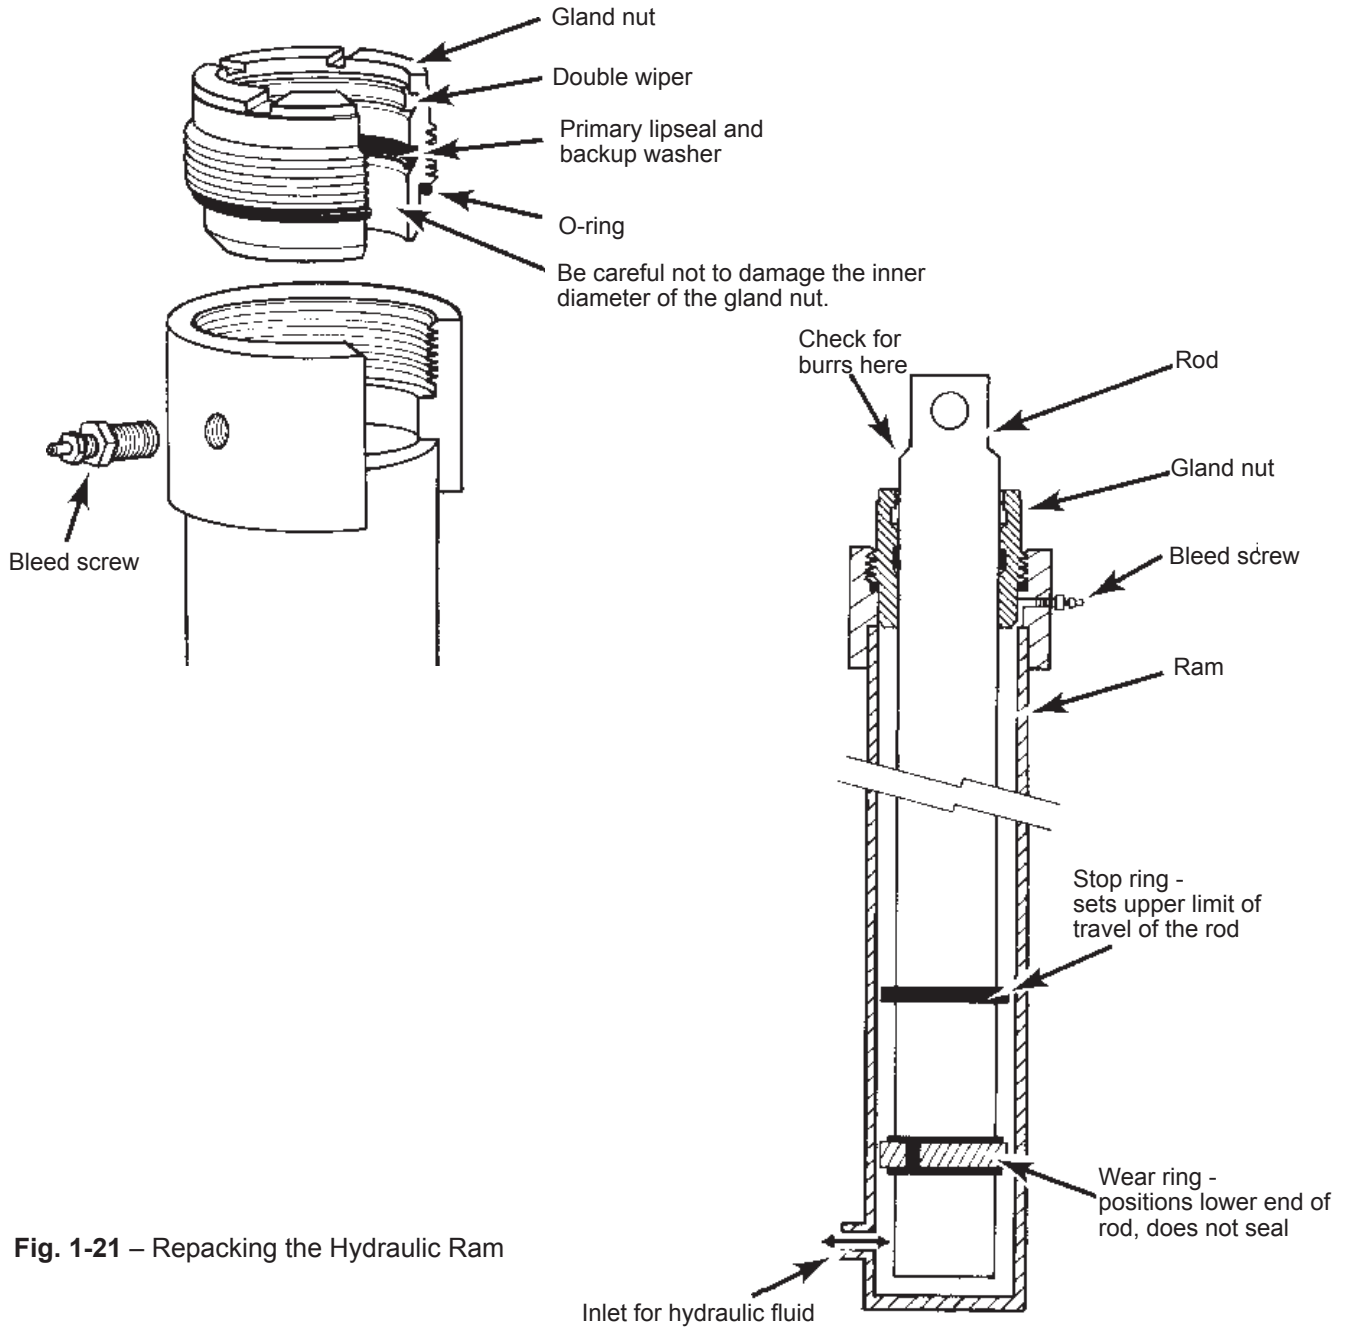

Fig. 1-21 – Repacking the Hydraulic Ram
1. If you notice any hydraulic fluid leaking around the rod, the gland packing should be replaced. Figure 1-21 shows the packing used on the VRC unit. The gland nut is made of bronze. The primary lipseal is mounted in the lower part of the gland nut, and a double wiper is mounted in the upper part. The upper end of the ram is designed so the gland nut can be completely removed. This means you can service the gland nut at the workbench. This arrangement also makes it possible to remove the rod for inspection or replacement.
Be sure the back of the washer is seated against the bottom of the groove. Install the lip seal on top of the backup washer. The lip on the seal should be nearest the lower end of the gland nut, as shown in Fig. 1-21.
14. Be sure the O-ring is mounted on the outside of the gland nut, just below the threads, as shown in Fig. 1-21. Thread the gland nut into the top of the ram casing. Tighten it by turning the nut clockwise.
3. Find the bleed screw on the upper end of the rod casing. See Fig. 1-21.
- If the oil is leaking around the top of the rod, the seals in the gland nut may be worn. See the section on "Replacing the Ram Gland Packing." Do not try to reduce the leakage by tightening the gland nut. This will only over-compress the O-ring under the gland nut. See Fig. 1-21.